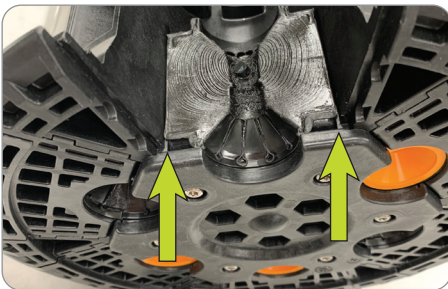

Figure 21
3. Engage sealing wedge pins into bottom of base. (Figure 21)